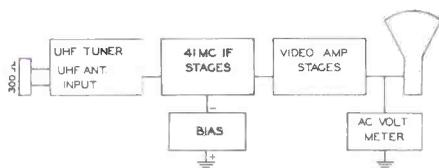

Fig. 1B. Block Diagram of Test Setup Before Applying Signal.
to such a degree that realignment may be necessary. This effect will be more apparent on converters and tuners of the detent type. In tuners and converters of the continuously variable types, the tuning range is usually sufficient so that tube changes may not necessitate realignment of the tuner or converter. These statements were confirmed by tests conducted in our laboratory where several representative types of converters and tuners were used. A photograph of the test setup used in the tests is shown in Fig. 1A. Figs. 1B and 1C are the block diagrams of the actual hookups used in compiling the values shown in Chart I which gives the results of changing the oscillator tube in one tuner.
3. The AGC was clamped to limit noise at the driven element of the picture tube to 20 volts peak to peak. This corresponds to a 3.3-volt AC reading on VTVM. See Fig. 1B.